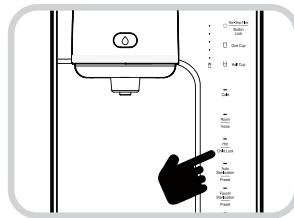

Fig. 2
1. If the Hot/Hot Water Lock button is pressed for three (3) seconds in the Waiting status, the Hot Water Lock will be selected. (Fig. 2).
- If the Hot/Hot Water Lock button is pressed for three (3) seconds in the Hot Water Lock status, the word Un-Lock will be displayed and the Hot Water Lock will be released.